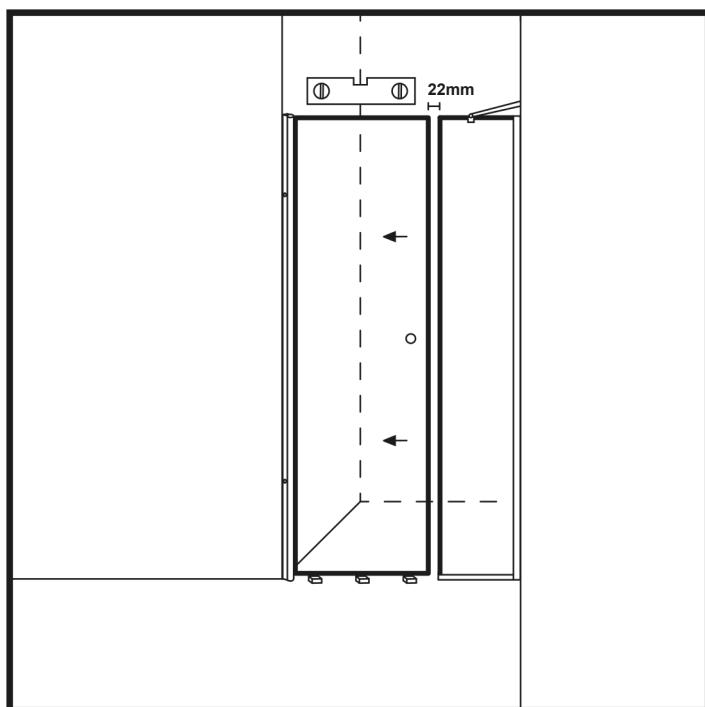

Figure 13
35. Place wooden blocks (max. thickness 1 cm) on the floor, where you can support the door glass in the package, which has a mono-hinge already installed by the manufacturer. (Figure 13)